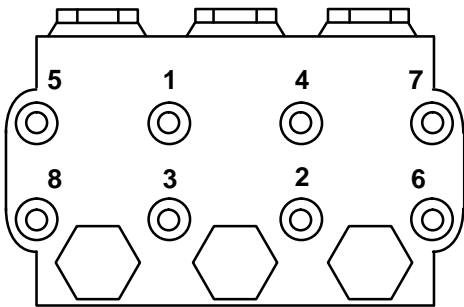

Figure 4
8. Install the capscrews and washers finger-tight. Torque the screws to 8.8 ft-lb (12 N·m) following the tightening pattern (Figure 4). Uneven tightening may cause the manifold to bind or jam.